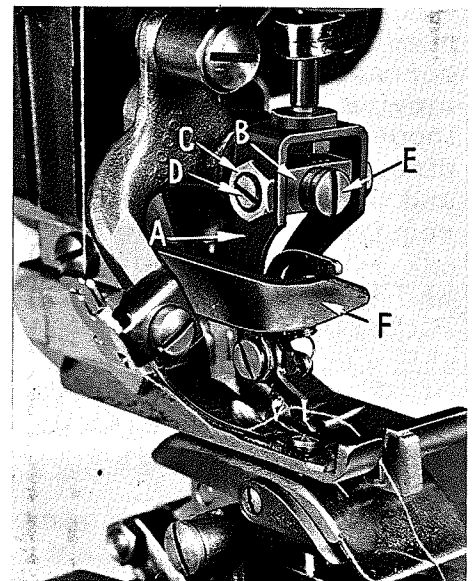
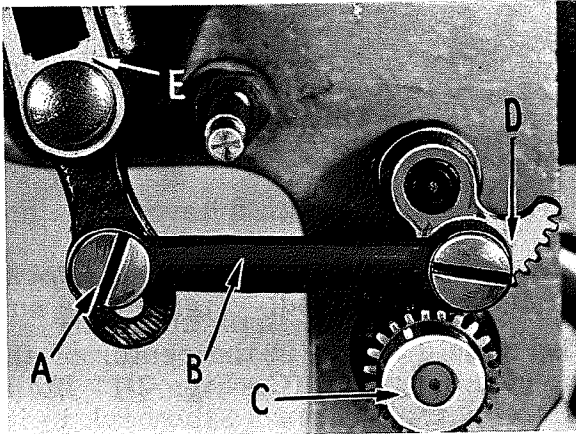

Fig. 8
Fig. 9
Before making any adjustment to the looper spreader mechanism, check for excessive play between the looper frame (A, Fig. 8) and the bearing block (B). If excessive play is encountered, it can be removed by loosening nuts (C) and positioning the cone screws (D) accordingly.
mechanism up or down on both sides of its stroke remove gear cover at back, loosen nut on screw (A, Fig. 9) and slide the link (B) up to raise looper or down to lower it. If the looper spreader mechanism is too close to the needle on one side and too far away on the other loosen the two set screws in gear (C), insert a screwdriver in screw (E, Fig. 8) and turn in the required direction. Turning the screw in a clockwise direction lowers looper on right side of stroke and raises looper on the left side of stroke. Turning screw in a counterclockwise direction acts the reverse. Tighten the set screws.
Looper opener (F, Fig. 8) should be set so that the bottom of the looper spreader point clears the needle by approximately $1/32$ inch when the looper spreader mechanism is in the left hand position and moving to the back. To make this adjustment, remove looper opener from machine and bend in the required direction. Check for clearance between the opener and the looper frame (A). Bend the looper opener as required. Assemble the opener to the machine.